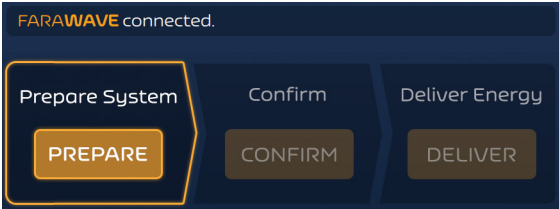
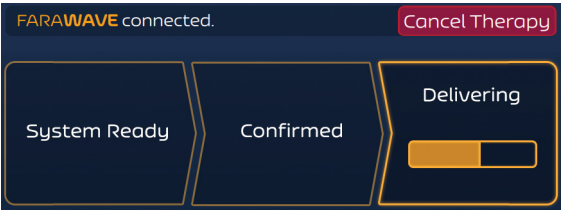

Figure 6. Therapy Screen — Asynchronous Mode — Idle State
Figure 11. Therapy Screen — Asynchronous Mode — Delivery in Progress
6. After selecting and connecting a PFA catheter, the Therapy Screen will now reflect the selection (see Figure 6 for an example). Asynchronous Mode is the default energy delivery mode of the FARASTAR PFA Generator.
6. Press the DELIVER button to initiate energy delivery. Energy delivery can be canceled by pressing the Cancel Therapy button at any time (see Figure 11), which will return the FARASTAR PFA Generator to the Idle state (see Figure 6).
9. To perform additional deliveries, press CONFIRM and then DELIVER. Energy delivery can be Canceled by pressing the Cancel Therapy button at any time. This will return the FARASTAR PFA Generator to the Idle state as shown in Figure 6.